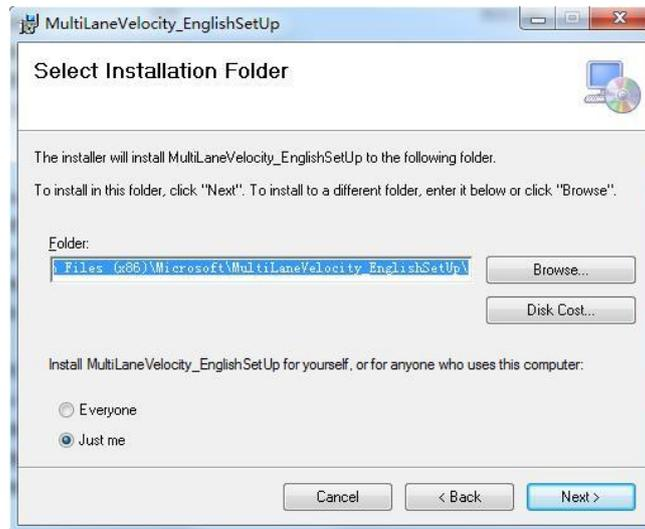

Figure 2-2 Select Installation Path
3. Click **Next** and then select an installation path, as shown in Figure 2-2.